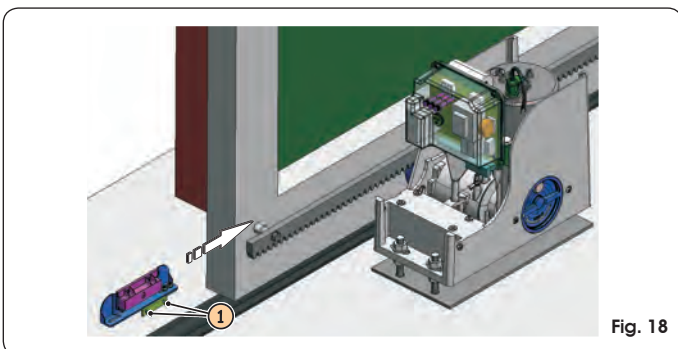

Fig. 18
- ③ Manually take the gate to opening position, leaving 4 cm from the travel limit mechanical stop.
- ④ Allow the magnet, with the padlock open, to slide, in opening direction on the rack - see figure 18. As soon as the LED on the board, referring to the opening limit-switch, goes OFF, take the magnet forward by another 10 mm and fasten it with the appropriate screws (Fig. 18 ref. ①).
- ⑤ Do likewise for the closing magnet.
- ⑥ Take the gate to about halfway of its travel and relock the system (see paragraph 9).